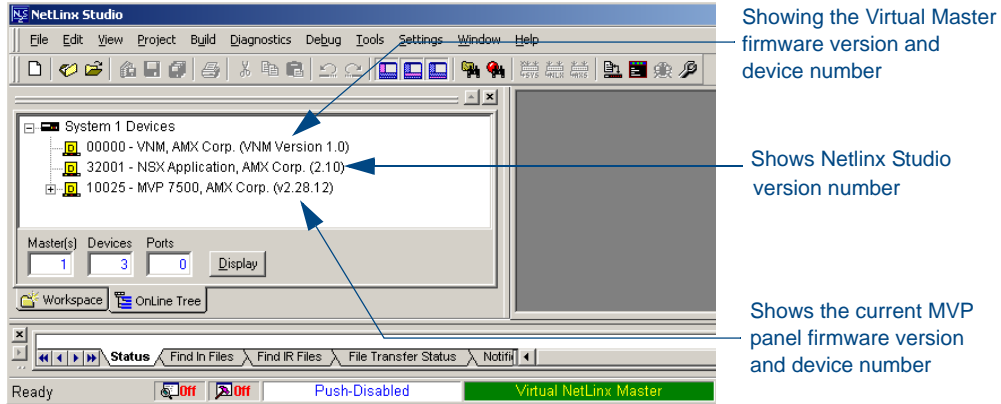

FIG. 68 NetLinx Workspace window (showing panel connection via a Virtual NetLinx Master)
3. After the *Communication Verification* dialog window verifies active communication between the Virtual Master and the panel, click the **OnLine Tree** tab in the Workspace window (FIG. 68) to view the devices on the Virtual System. *The default System value is 1.*
4. Right-click on the System entry (FIG. 68) and select **Refresh System** to re-populate the list. Verify the panel appears in the **OnLine Tree** tab of the Workspace window. *The default Modero panel value is 1.*